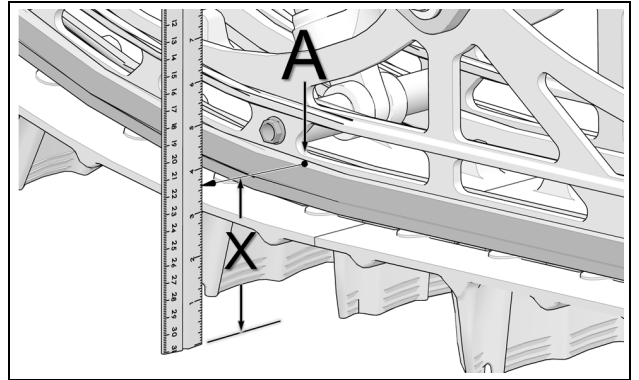

Figure 38
- At the **front** measurement point (A), measure distance (X) between the top of the rail slide and the ground. See Figure 38.